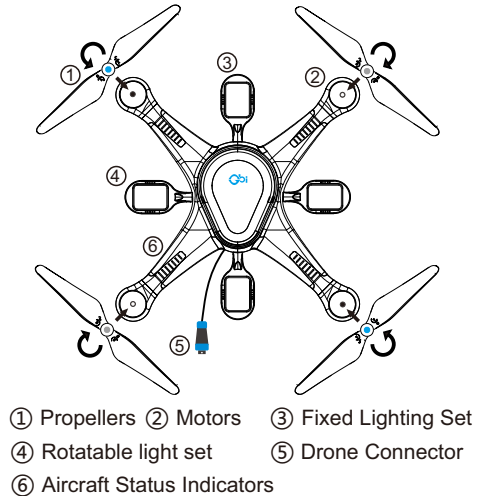

Figure 2:Schematic diagram of the lighting drone components
⑨ Oarlock*1
1.Installation Of Lighting Drone Propellers (Refer To Figure 2)